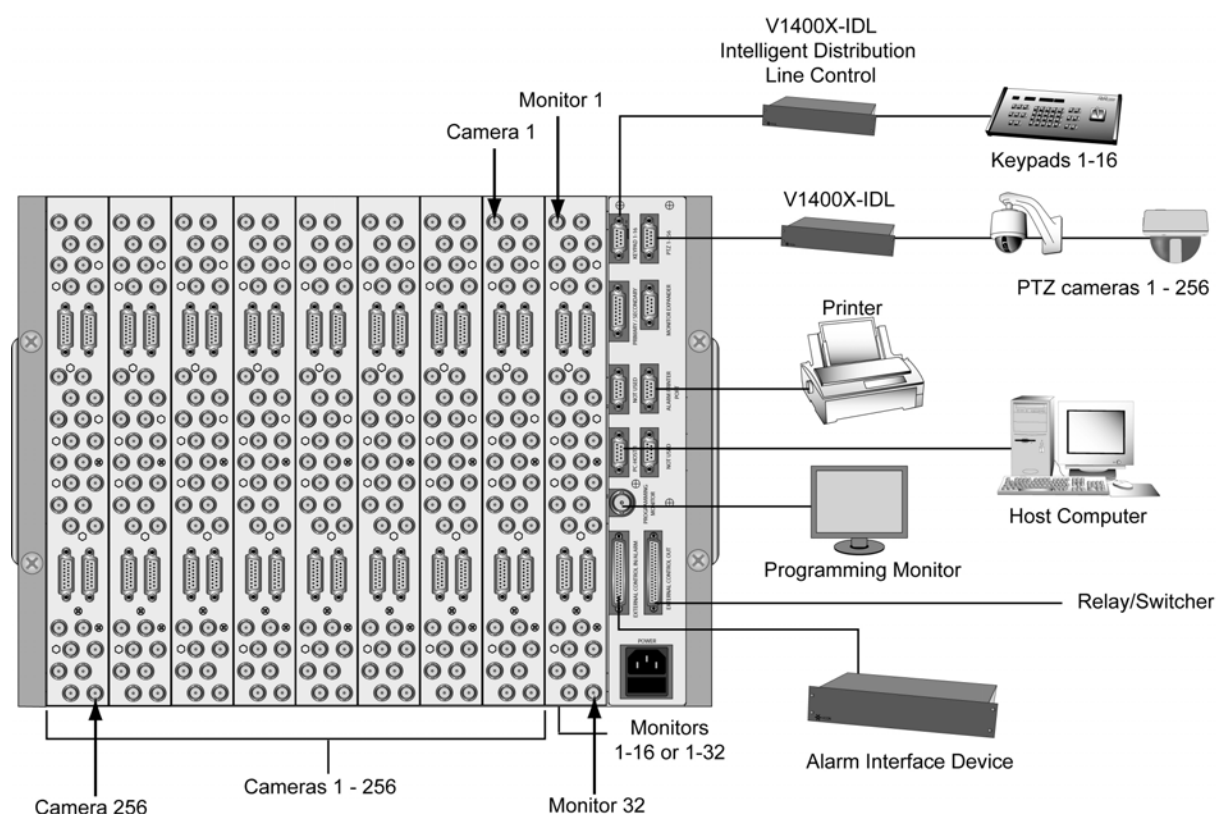

Figure 9: Typical Single-Cage Installation
The Primary cage (Figure 9) contains the CPU card, TDT card and Video Switcher boards. Up to 256 cameras may be connected to the camera BNC panels on the rear of the unit. Monitors 1 - 16 or 1 - 32 are connected to the monitor BNC panel. Each BNC panel contains 4 D-shell connectors, which are used to loop video out to another cage or device. The CPU panel (Figure 10), provides connections for keypads (KEYPAD 1-16), PTZ receivers (PTZ 1-256), a printer (ALARM PRINTER PORT), the Host computer ((PC-HOST-1), a monitor used for programming the system (PROGRAMMING MONITOR), external alarm devices such as the Alarm Interface Device (EXTERNAL CONTROL IN/ALARM) and an EXTERNAL CONTROL OUT port for devices such as the V1400X Video Loss Detector or the Relay/Audio-Follow-Video Switcher. The programming keyboard is connected to the PS/2 connector on the front panel. Refer to *Reference, Cable Recommendations*, for information on the appropriate cable for your application.
1. Connect the cameras and monitors to the BNC panels as described in the *Camera and Monitor Connections* section. Note where camera 1 and camera 256 are connected as shown in Figure 9.
5. If desired, connect the Host Computer (PC) to the PC-HOST-1 port.
1. Connect cameras 1 through 256 to the camera BNC panels on the Primary cage as described in the *Camera and Monitor Connections* section. Note where camera 1 and camera 256 are connected as shown in Figure 9. The monitors are only connected to the Primary Cage.